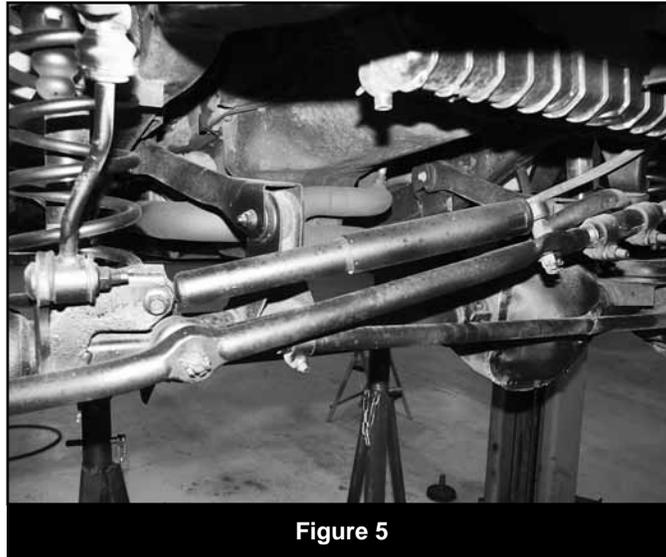

Figure 5
19. Disconnect the OE steering stabilizer from the axle (Fig 5). Retain hardware. Note: If replacing the stabilizer (recommended), remove the tapered stud from the drag link with a pickle fork or by striking the drag link near the stud with a hammer to free the taper. Remove and discard the stabilizer.